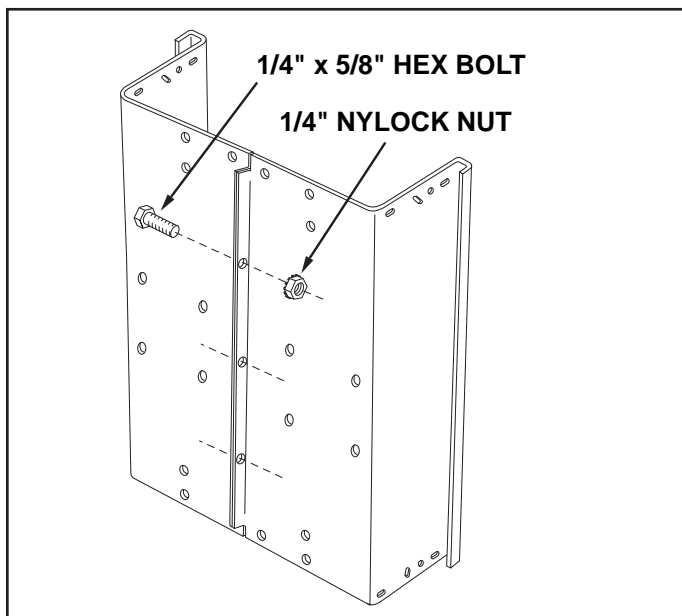
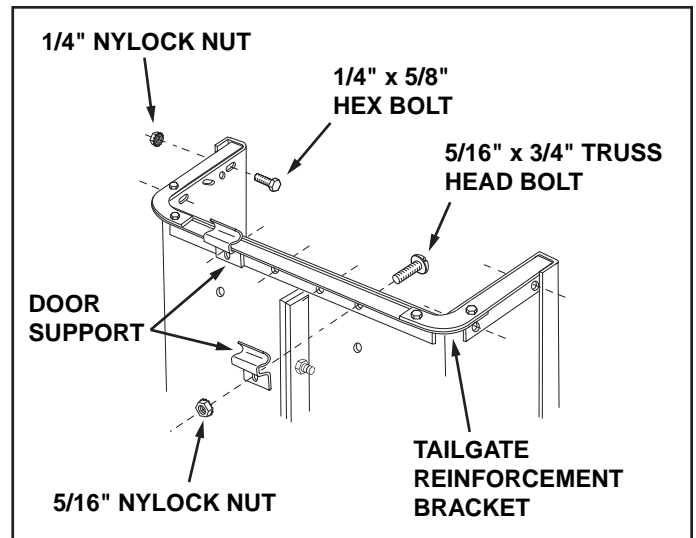

FIGURE 1
FIGURE 2
- 1. Place cart body halves upright on a smooth level surface such as a garage floor or a paved driveway. See figure 1.
- 2. Assemble cart body halves together using three 1/4" x 5/8" hex bolts and 1/4" nylock nuts as shown in figure 1. **Do not tighten yet.**
- 3. Fit the tailgate reinforcement bracket over the end of the cart bed. Position the two door support brackets on the bottom of the reinforcement bracket as shown in figure 2. Fasten the reinforcement bracket and the door supports to the bottom of the cart using four 5/16" x 3/4" truss head bolts and 5/16" nylock nuts. **Do not tighten yet.** See figure 2.
- 4. Fasten the tailgate reinforcement bracket to the sides of the cart body using four 1/4" x 5/8" hex bolts and 1/4" nylock nuts. See figure 2. **Do not tighten yet.**
- 5. Pull the cart body halves together. **Tighten** the four truss head bolts in figure 2. **Tighten** the four hex bolts in figure 2. **Tighten** the three hex bolts in figure 1, keeping the bottom aligned and pulled together.